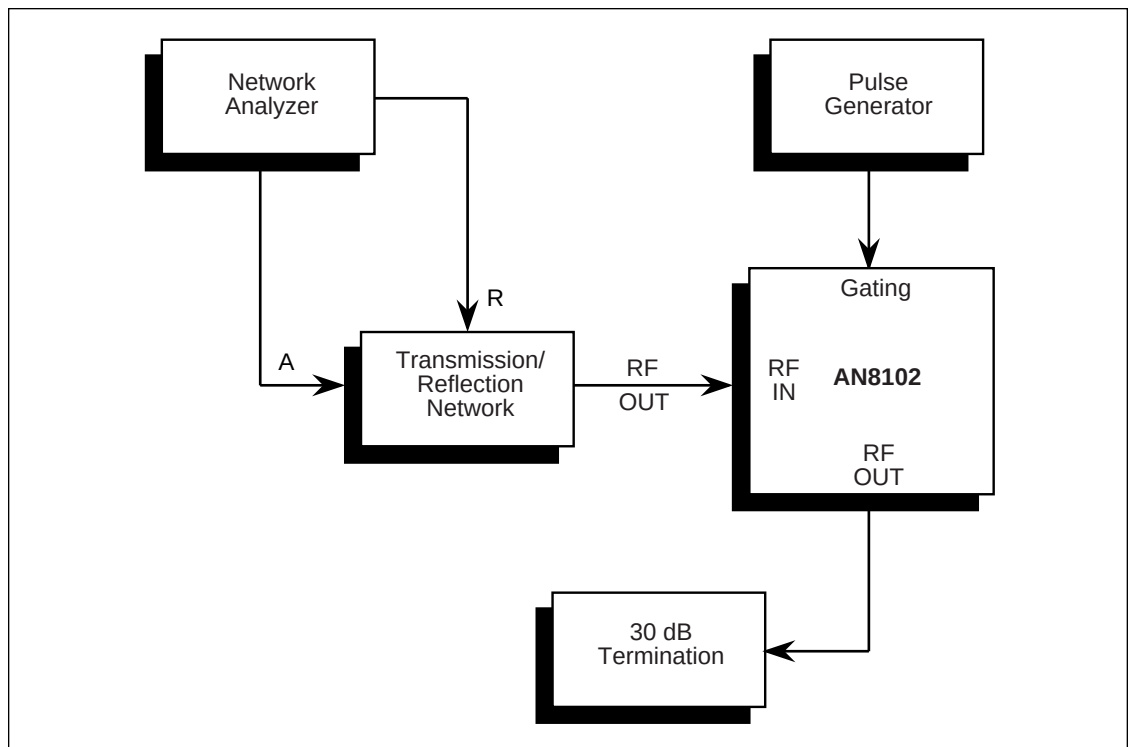

Figure 5-5. Input Impedance Test Setup.
1. Set up the test equipment as in Figure 5-5.